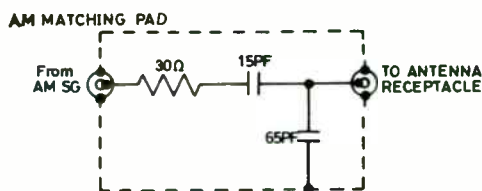

Fig. 3
- (a) Connect sweep generator output to ANT. receptacle through a matching pad shown in Fig. 3, and vertical axis input oscilloscope to TP-203 (R251 22 k ohm 1/4W).
- (b) Connect FM signal generator and stereo signal modulator as shown on Fig. 3, and set the stereo modulator to 7.5 kHz deviation (10%) for pilot signal (19 kHz) and 67.5 kHz deviation (90%) for L + R main signal, and FM signal generator to 98 MHz, 1 mV, 75 kHz deviation (100%).